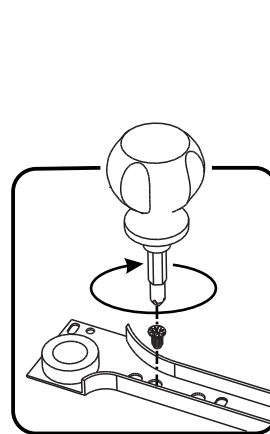

Figure 2
Attach Left Guide to Side Panel (B) and Right Guide to Side Panel (C) with Varianta Screws. (See Figure 2)